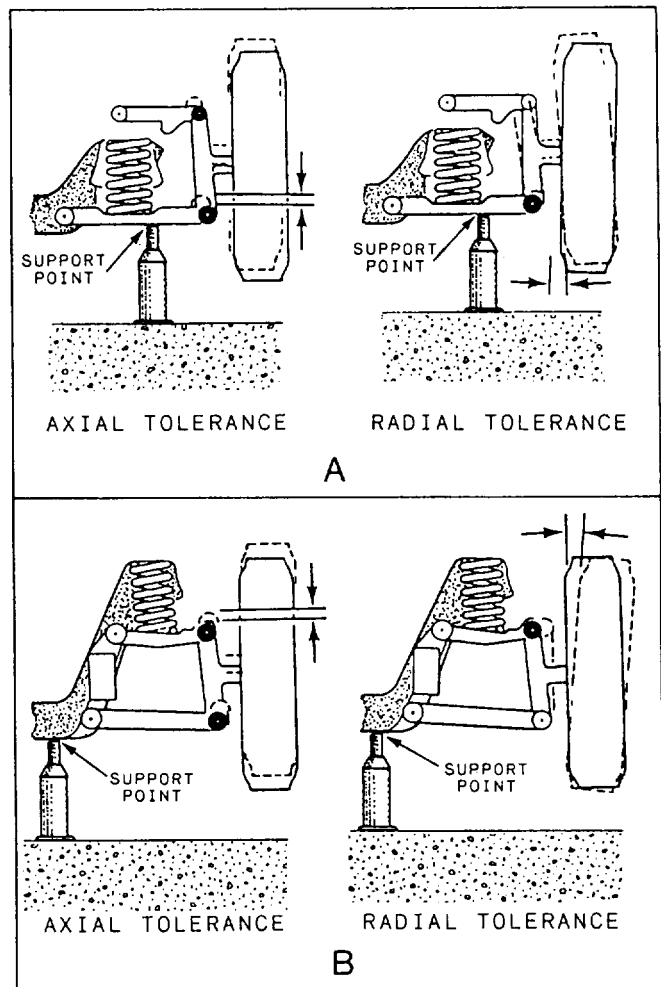

Figure 12-13.—Checking ball joints for wear.
5. Inspect the upper and lower ball joints. You are checking the axial and radial play. Make sure either does not exceed the manufacturer's specifications. Inspect one wheel at a time in the following manner: (A) If the lower ball joint carries the load (spring rides on the lower control arm) (fig. 12-13, A), place the jack under the lower control arm. If the upper ball joint carries the load (spring mounted on top of the upper control arm) (fig. 12-13, B), put the jack under the vehicle frame. (B) Using a pry bar under the tire, work it up and down while watching for movement at the ball joints. This is axial